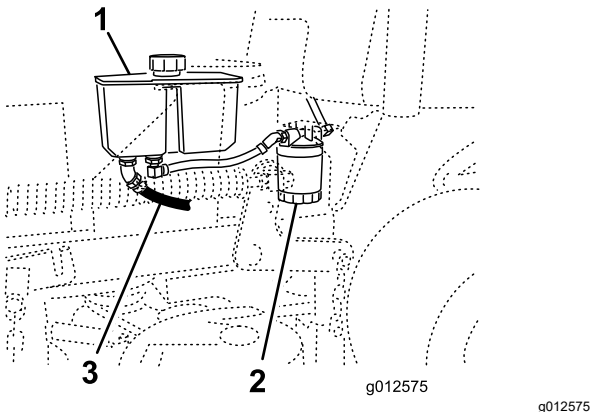

Figure 72
4. Locate the front hydraulic hose under the hydraulic tank and place a drain pan under the tank (Figure 72).